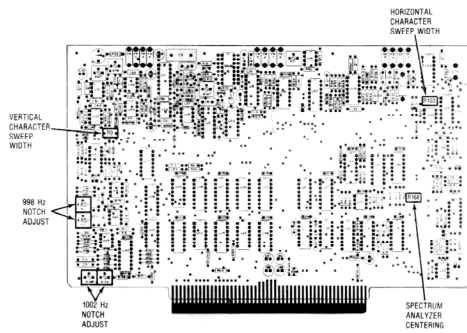

Figure 5-14. Scope/DVM Control Alignment Points
3. Adjust the Spectrum Analyzer Centering Potentiometer on the Scope/DVM Control Board (Figure 5-14) so that the spectral line on the CRT is centered about the center graticule line.
3. Short the center conductor of the DVM input jack on the front panel to ground. Connect an external DVM between TP2 and TP9 of the Scope/DVM Control Board (Figure 5-14).
3. Adjust the Horizontal Character Sweep Width Potentiometer on the Scope/DVM Control Board (Figure 5-14) so that the right-hand edge of the CRT character display is approximately 4.2 graticule divisions to the right of the graticule center line.
4. Adjust the Vertical Character Sweep Width Potentiometer on the Scope/DVM Control Board (Figure 5-14) so that the bottom edge of the CRT display is approximately 3.3 graticule divisions below the graticule center line.
6. Alternately adjust the 998 Hz notch potentiometers on the Scope/DVM Control Board (Figure 5-14) to null the distortion reading on the CRT. A reading less than 0.5% should be obtained.
8. Alternately adjust the 1002 Hz notch potentiometers on the Scope/DVM Control Board (Figure 5-14) to again null the CRT distortion reading. A reading less than 0.5% should be obtained.